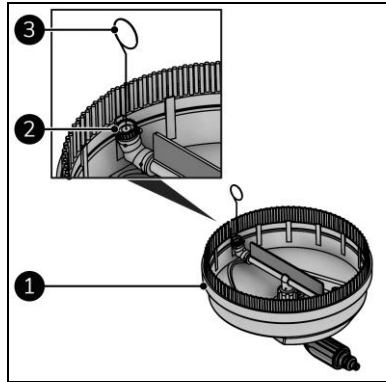

Figure 22
3. Pull the floor cleaner (Figure 22, pos. 1) from the extension lance (Figure 5, pos. 1).
4. Clean both nozzles (Figure 22, pos. 2) with the cleaning pin (Figure 22, pos. 3).